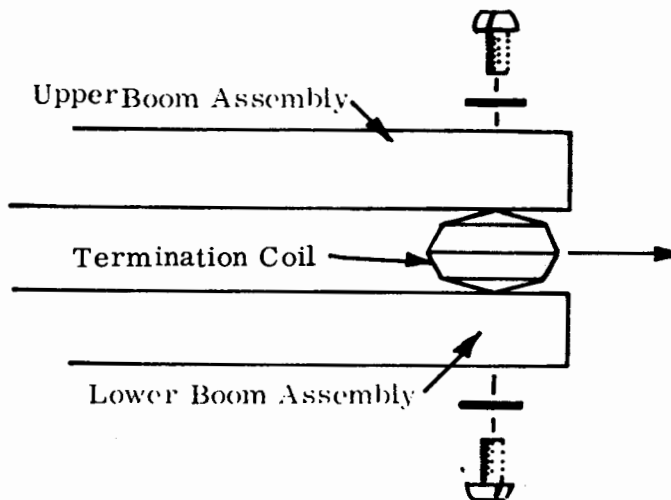

Figure 3-8 Removing and Checking Termination Coil
a. Remove termination coil assembly by unscrewing the two pan head screws at the rear end of the boom assembly allowing the termination coil to be slid out as shown in Figure 3-8. Using an ohm meter, check termination coil for continuity. Replace with new coil if continuity does not exist.
e. Reconnect termination coil assembly and connect to boom as shown in Figure 3-8. Check 75' coaxial cable assembly.